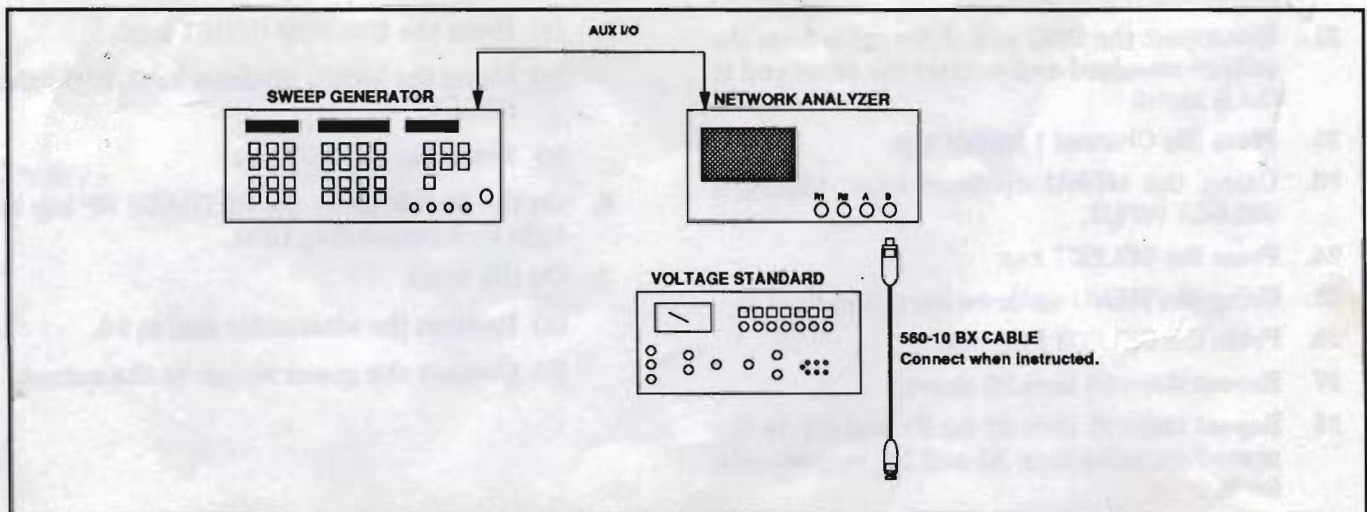

Figure 2-1. Test Equipment Setup for Signal Channel Accuracy Test, DC Voltage Method
1. Set up the test equipment as shown in Figure 2-1.